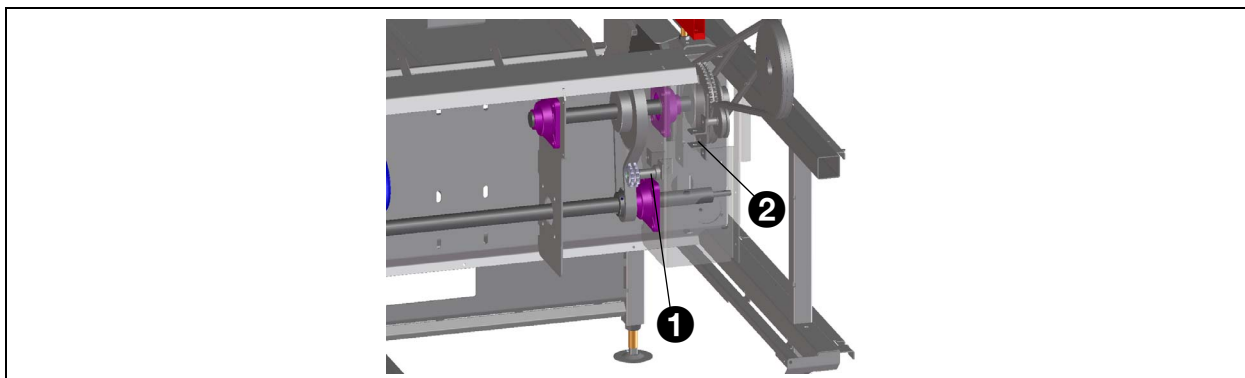

*Fig. 99 - Chain tensioner of Transfer drive shaft™*
3. Adjust the chain tension of the drive of the Transfer™ with the chain tensioner (3). See fig. 99.